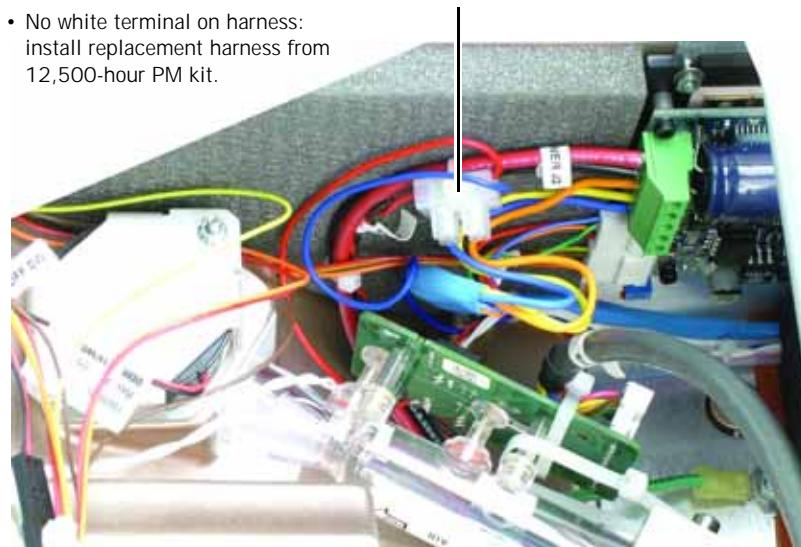

Figure 4-1: Power Supply to Blower Motor Harness Versions
2. With the top and bottom enclosures separated and the power supply shroud removed, check the power supply to blower motor harness (Figure 4-1):